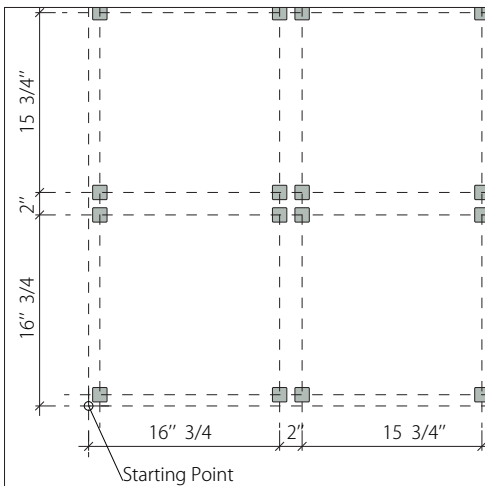

Fig. 2
1. From the starting point, measure $16\frac{3}{4}$ ", and fix the next plate and work your way up. (See Fig. 2)